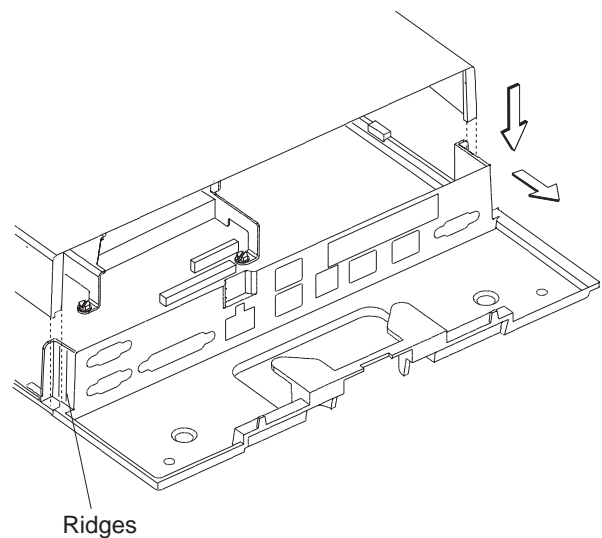

Figure 3-33. Installing the Cover
- 5 To install the cover, connect the digital interface cable to the system board. Position the cover so that it fits over the ridges on the base as shown in Figure 3-33. Lower the cover onto the base and slide it to the rear until the latch engages the rear connector panel.